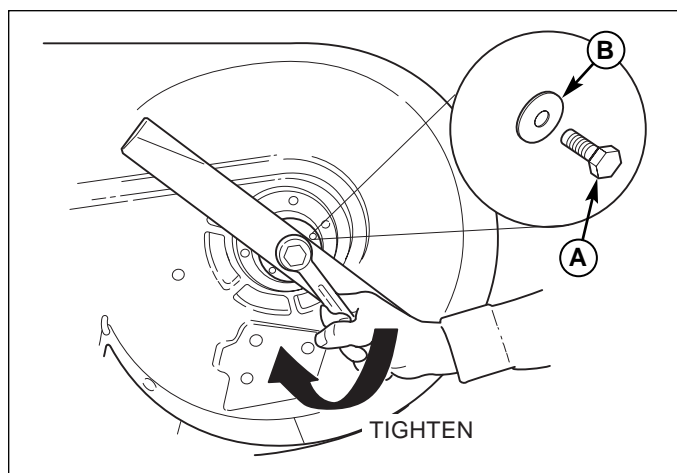

Figure 15. Installing the Blade
7. Reinstall each blade with the tabs pointing up toward deck as shown in Figure 15. The blade spacers, blade, washer and bolt must be reinstalled in the exact same order in which they were removed. Torque bolts to 70-90 ft.lbs. (94-120 N.m.).